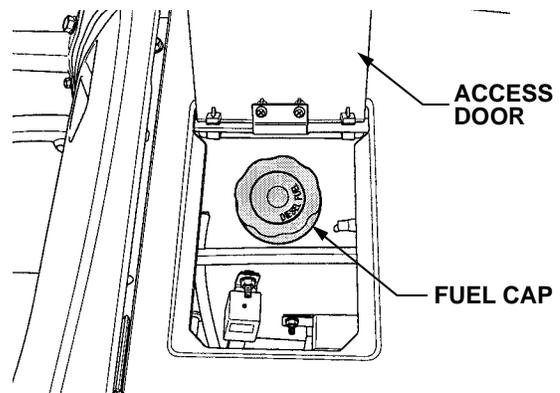

Figure 52
- Check the fuel level before each use. Take care that the fuel tank is not allowed to become empty. See Figure 52.